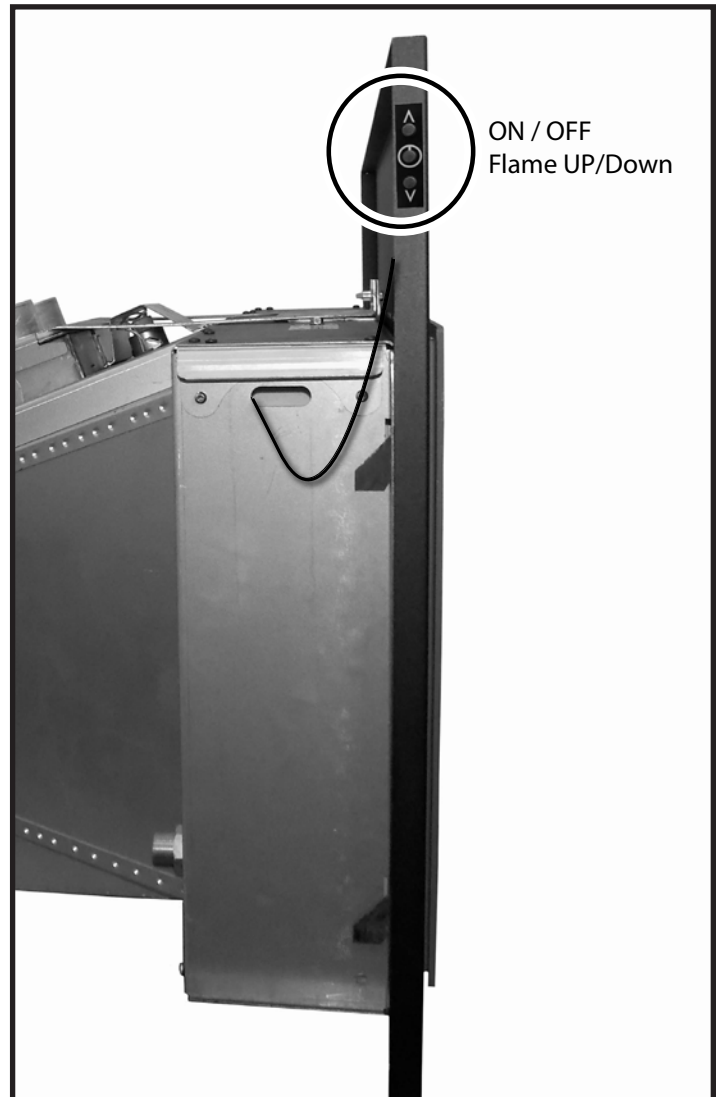

Figure 93: On Off switch location for Maxitrol units.
4. Install the surround backing plate and surround (Figure 93).